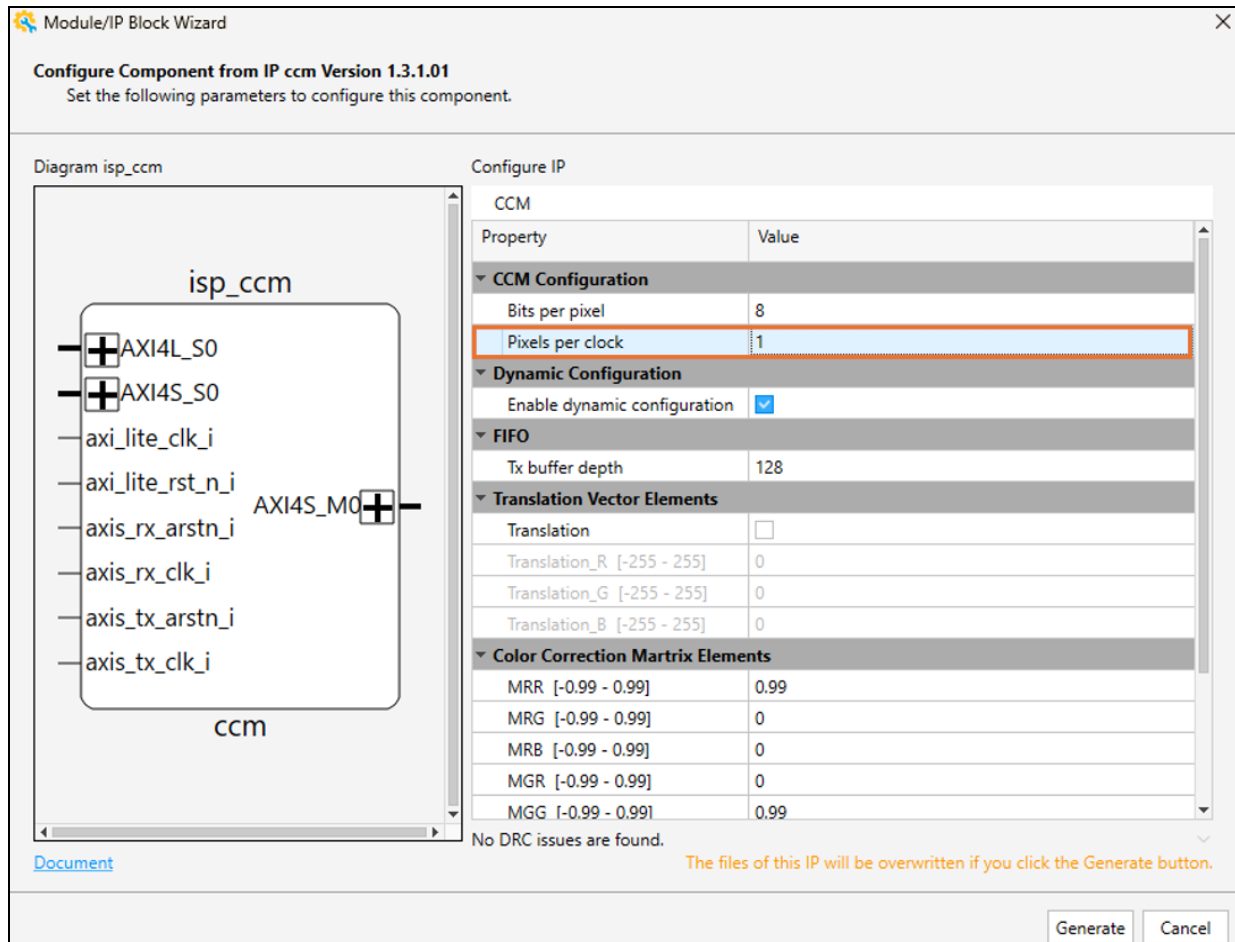

Figure 7.22. Color Correction Matrix Configuration
2. Under the **CCM** setting, set the **Pixels per clock** to 1 (Figure 7.22).